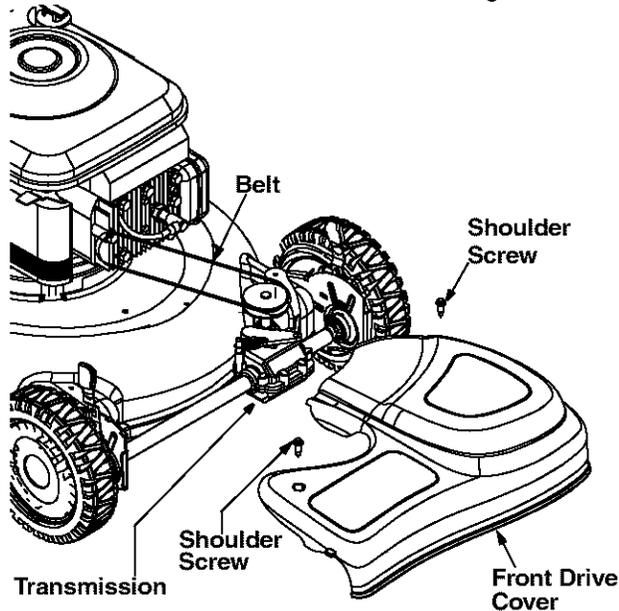

Figure 13
- Remove two shoulder screws securing the front drive cover to the mower deck. See Figure 13.